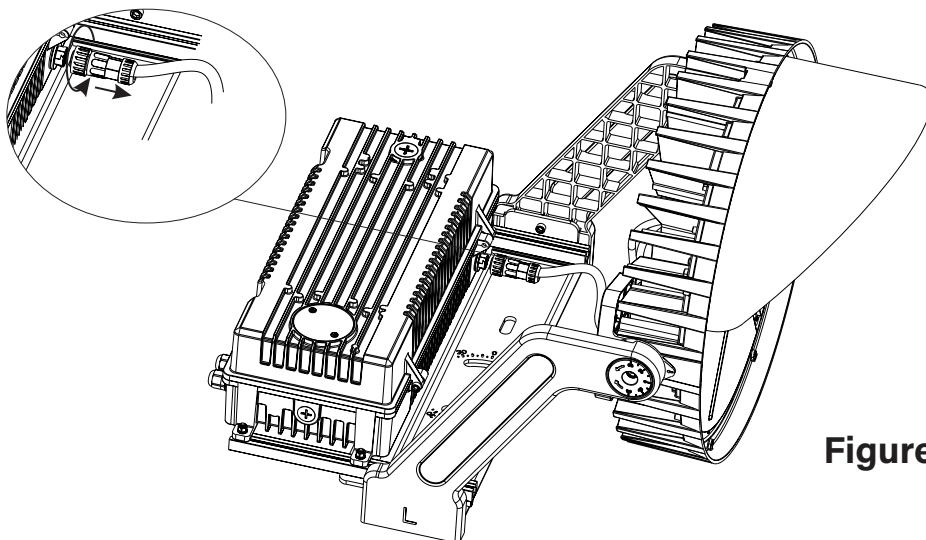

Figure 23
- Unplug the waterproof connector from the driver box, as shown in Figure 23.